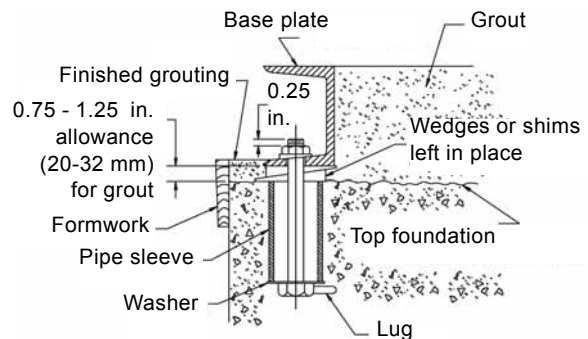

Fig. 1 Anchor bolt installation
3. Place anchor bolts in pipe sleeves for positioning allowance. See fig. 1.
6. Construct a formwork around the concrete foundation and pour grout inside the base plate, as shown in fig. 1. The grout will compensate for uneven foundation, distribute the weight of the pump, and prevent shifting.